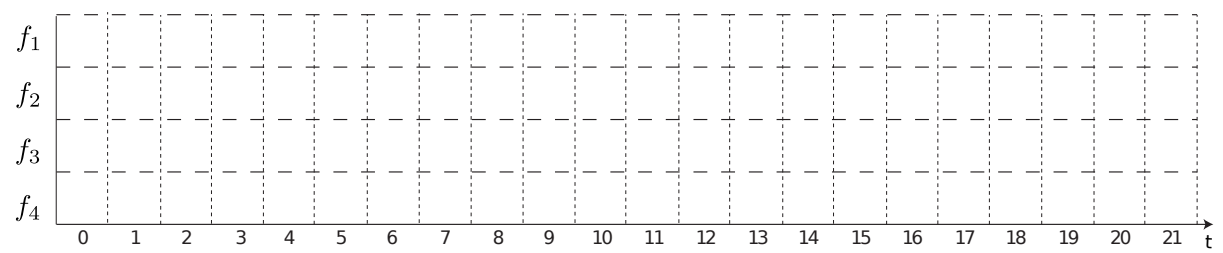

Figure 8: Pipelined Scheduling
- (d) (3 points) Now assume that, there are only **one** multiplier to compute f2 and **one** adder to compute f1,f3 or f4 available. First, depict a pipelined scheduling in Figure 8 under this resource constraint with a predefined minimal iteration interval $P = 5$. Then, indicate the latency L of the schedule. Draw **three** consecutive iterations, and mark different iterations clearly, e.g. with different colors, different textures, or different numbers.